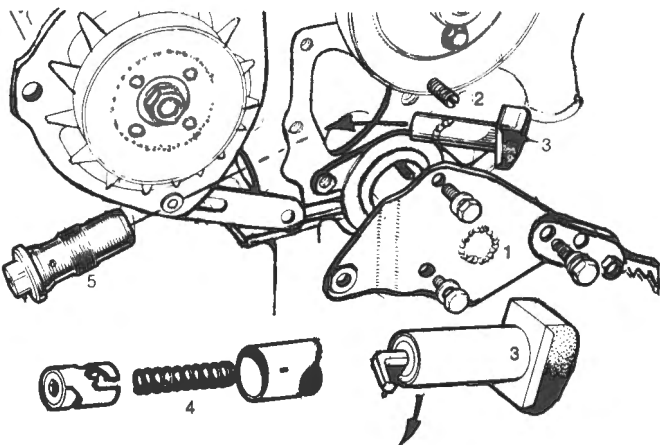

Fig. E-25
- 1 Offer up the tensioner as illustrated in Fig. E-25. Push chain inwards and place tensioner in position.